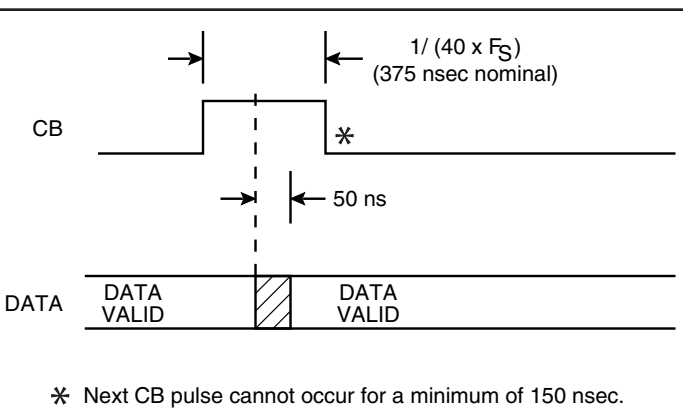

FIGURE 15. CONVERTER BUSY TIMING
The Converter Busy (CB) signal indicates that the tracking converter output angle is changing 1 LSB. As shown in FIGURE 15, output data is valid 50 ns maximum after the middle of the CB pulse. CB pulse width is $1/(40 \times F_s)$, which is nominally 375 ns.
the timing to CB "Figure 15" before setting the \overline{INH} latch. Therefore, there is no need to monitor the CB line when applying an inhibit signal to the converter.